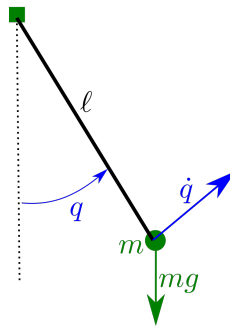

Figure 2.4: Simple pendulum as a conservative system
- 1) Let us consider the simple pendulum shown in Figure 2.4. This pendulum has a length of  $\ell$  and is composed of a single point mass  $m$ . Calculate the Hamiltonian of the system. Deduce the state equations from this.